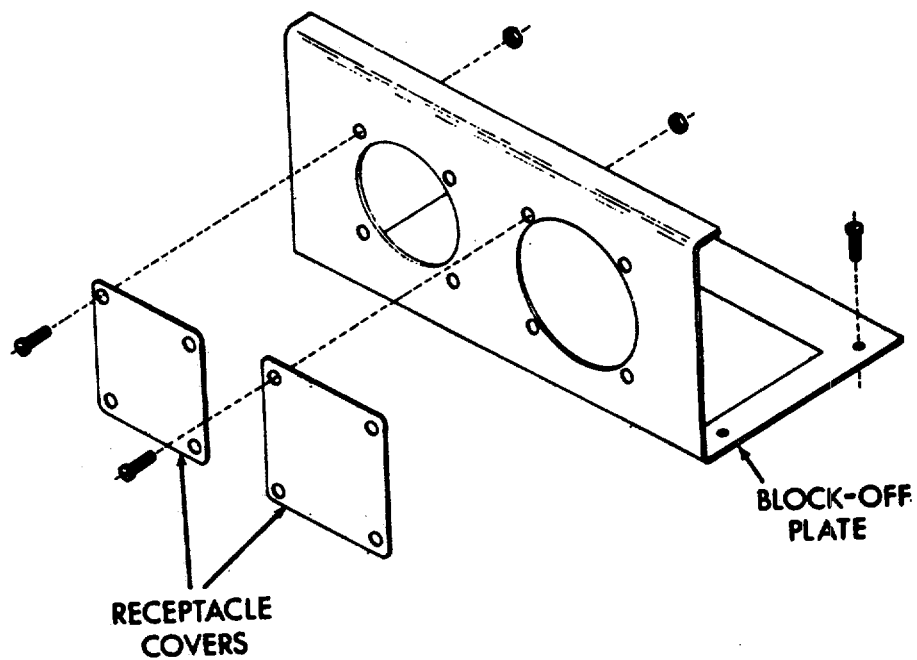

Figure 4-8. Block-Off Assembly)
The block-off assembly (figure 4-8) is used only when the control panel is removed to a remote location. The block-off assembly fills the opening in the lower front access panel to prevent intake of air through the opening, which would bypass the condenser coil.
**b. Installation of Block-off Assembly.** Install the block-off assembly (figure 4-8) as follows:
(1) Remove the cover and install the control panel assembly in opening.
(2) Place the block-off assembly in position on the junction box, and secure with four screws.
(3) Install the front access panel on the air conditioner by placing the lower edge of the panel behind the step of the base plate, and pushing downward and inward. Secure with four panel fastener screws.
(4) Position the evaporator air intake grille on the unit, and secure each with 12 screws and washers.